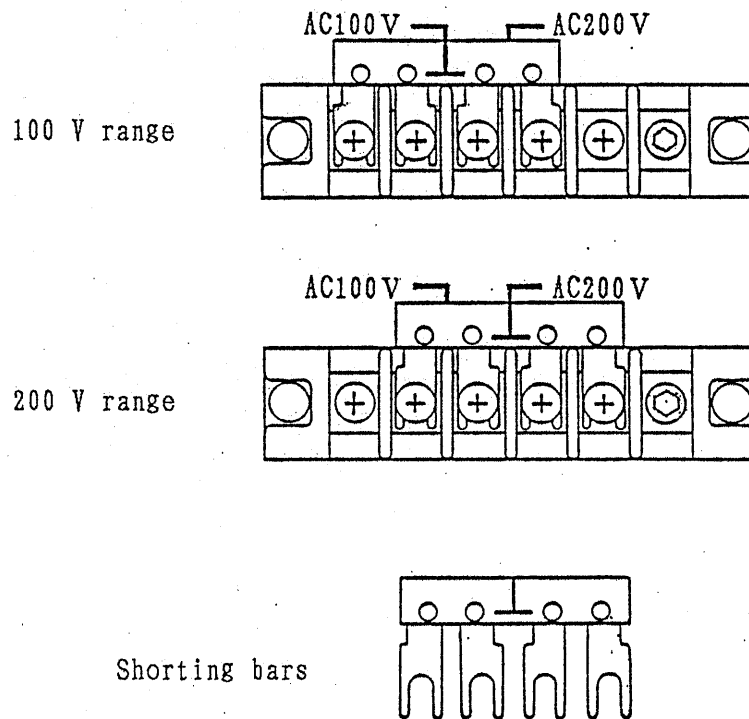

Figure 3-2-2
- 2) Select either the nominal 100 V or 200 V input voltage range as you may require by changing the positions of the shorting bars of the INPUT VOLTAGE SELECTOR terminal block ⑬ as shown in Figure 3-2-2. (The converter is shipped from its manufacturer with the selector switch set at the 200 V range.)